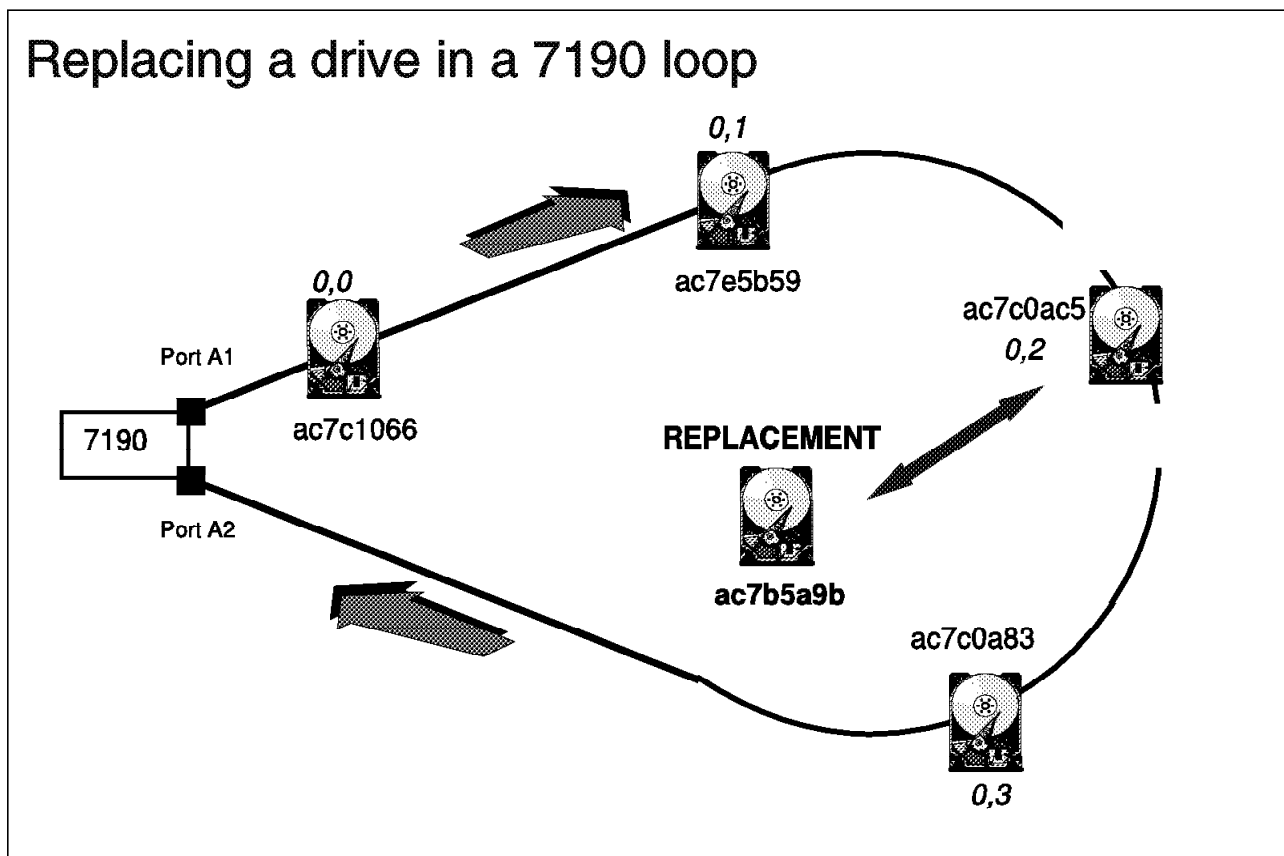

Figure 106. Replacing a Drive on an SSA Loop
2. Enter the SSA\_SERV utility and view the SSA topology Figure 106) to verify that the loop is complete and no drives are in the inactive list. If the drive to be replaced is in the inactive list, you can skip Step 3.